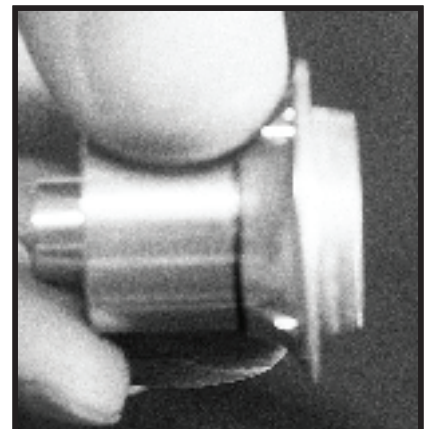

Figure 20 - adjusting cone
4. Thread adjusting cone along axle end until a small gap at the beginning of the threads shows. (See figure 20.)